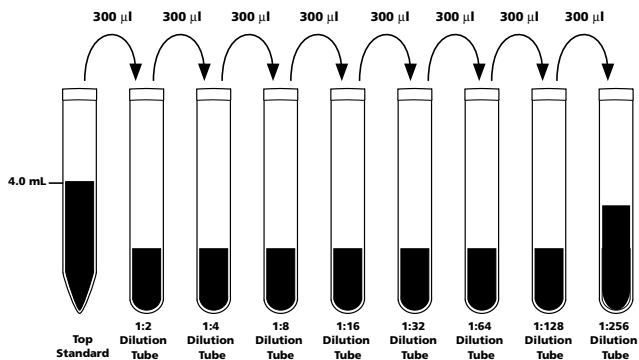

Figure 2. Preparation of Human Chemokine Standard Dilutions
5. Perform a serial dilution by transferring 300 µl from the Top Standard to the 1:2 dilution tube and mix thoroughly. Continue making serial dilutions by transferring 300 µl from the 1:2 tube to the 1:4 tube and so on to the 1:256 tube and mix thoroughly (see *Figure 2*). **Mix by pipette only, do not vortex.** Prepare one tube containing Assay Diluent to serve as the 0 pg/ml negative control.